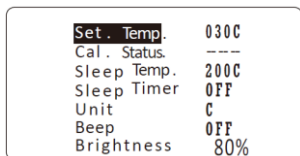

Fig.5
6.3.1. When Cal. status display "----"(see Fig 5), it means temperature have not calibration.